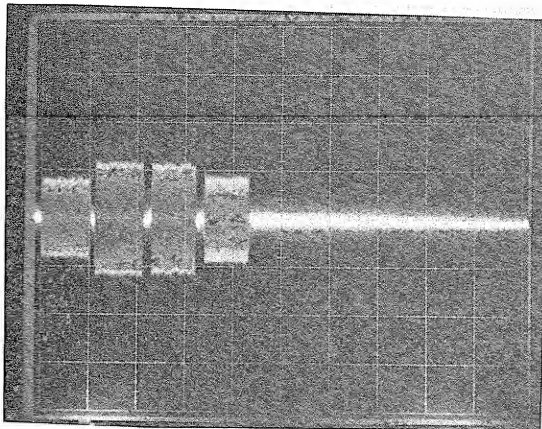

FIGURE 13
- Compare the wave form to Figure 13. If not within the range shown the head Azimuth will require adjustment. If required, proceed to next step.
- Pry the R.H. side of the stepper plate up with a medium screw driver until the 1st and 4th sectors have equal to or less amplitude than the middle 2 sectors. Reference Figure 13.